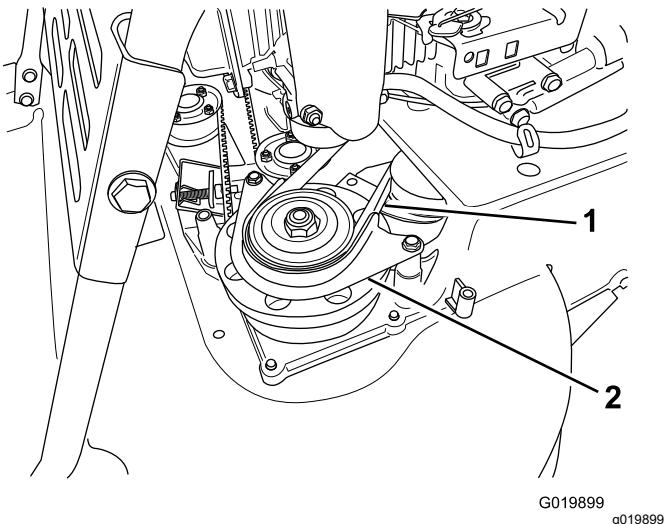

Figure 40
6. Remove the BBC belt guard (Figure 40).